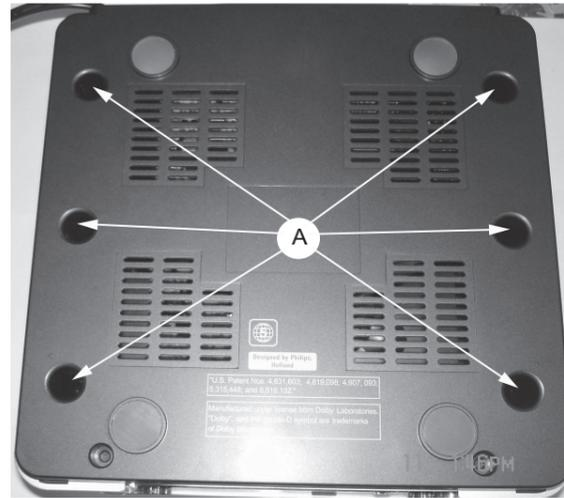

figure 1
1) Loosen 6 screws "A" as shown in figure 1 to remove bottom cover.